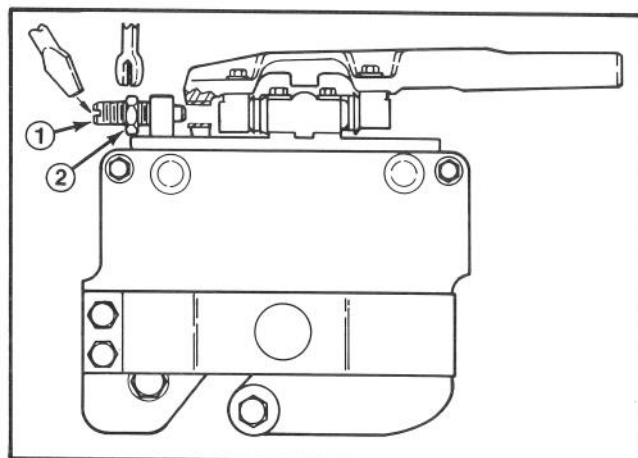

Figure 15
- A. Float Position (Fig. 15) — Allows cutting units to float freely and follow turf undulations, this position is recommended when mowing at heights-of-cut less than 1-inch (25 mm) and removing less than approx. one inch (25 mm) of clippings.
Float Position: Loosen jam nut, unscrew lockout pin until it disengages from the pivot arm. Tighten jam nut (Fig. 15).
- J. Loosen lockout pin so cutting unit can float freely (refer to Cutting Unit Orientation, Fig. 15).